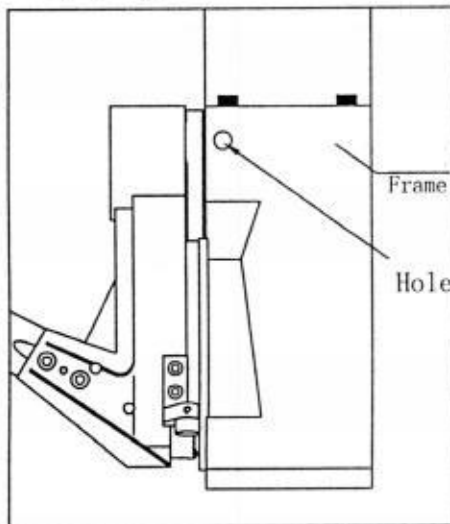

Fig. 13
(A) Loosen the two set screws of the synchronous belt wheel in the right hole of the frame (Fig.13).